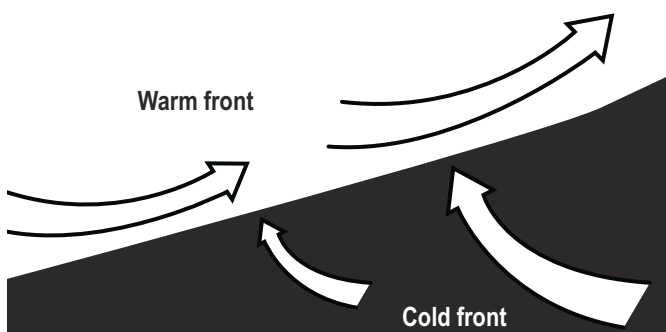

Figure 1-5. Frontal Lifting.
- **Frontal lifting.** Frontal lifting occurs when two air masses of different moisture and temperature content collide. Since the air masses will not mix, the warmer air is forced aloft (see fig. 1-5). Once there, it is cooled and then reaches its saturation point.